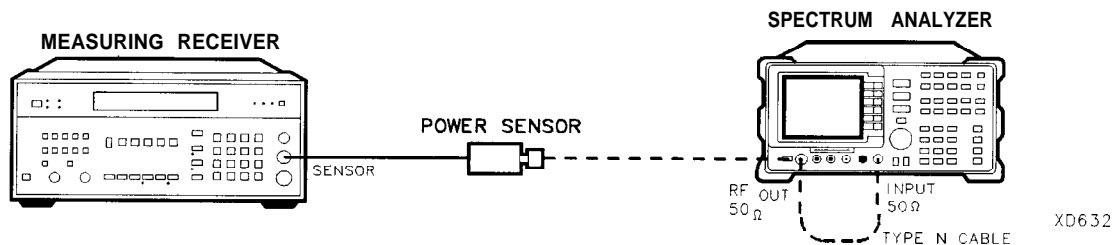

Figure 2-88. Absolute Amplitude Accuracy **Test** Setup
1. Connect the Type N cable between the RF OUT 50  $\Omega$  and INPUT 50  $\Omega$  connectors on the spectrum analyzer. See Figure 2-88.
- AUX CTRL** TRACK GEM SRC POWER ON OFF (ON) -5 **dBm**
5. Disconnect the Type N cable from the RF OUT 50  $\Omega$  and connect the 100 kHz to 2.9 GHz power sensor to the RF OUT 50  $\Omega$ . See Figure 2-88.
6. On the spectrum analyzer, press SRC POWER ON OFF (ON), -20 **dBm**, SRC POWER MAN AUTO (MAN), 16 **dBm**, **SGL SWP**.